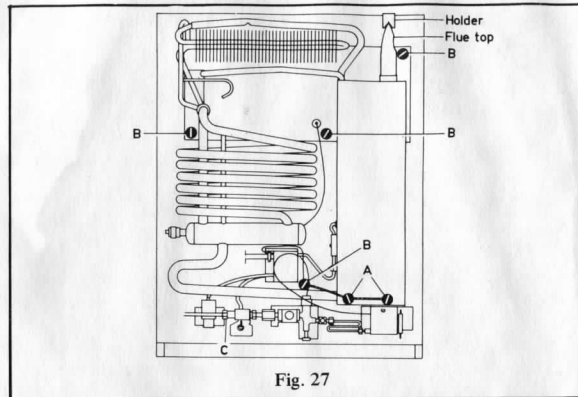

Fig. 27
- Remove the grounding screws (A) (Fig. 27) on the lower part of the boiler case.
- Remove the screws (B) (Fig. 27) holding the absorption unit onto the back of the cabinet.
- Remove the ground screws (A) (Fig. 27) on the lower part of the boiler case.
- Remove the screws (B) holding the absorption unit onto the back of the refrigerator (Fig. 27).
- Remove the fastening screw (B) on the burner housing and remove the burner housing from the boiler case.